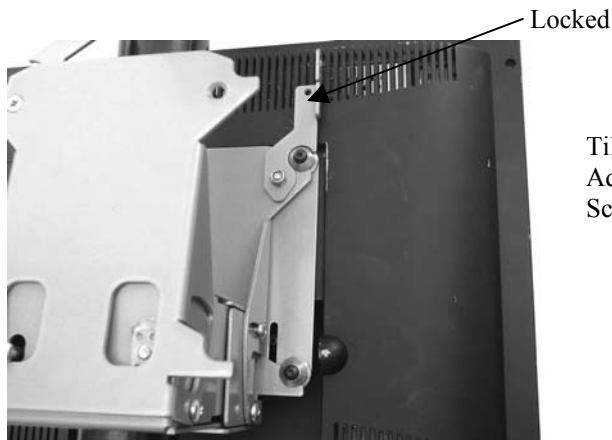

Figure 6
3. Engage pole-mounting bracket latching flags, locking small flat panel displays in place (see Figure 6).